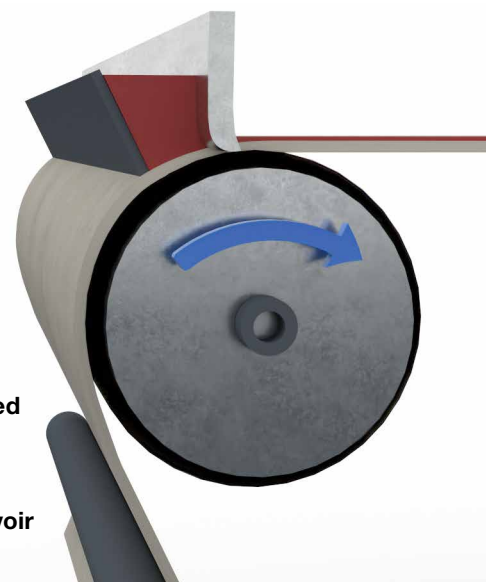

Figure 1:
- Employ backing dams in coating heads. **Figure 1**
- Tilt the knife towards the backing dam to increase hydrodynamic pressure. **Figure 1**